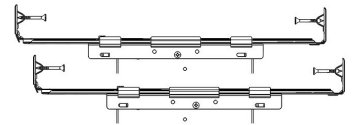

Fig. 3
2. The hanger bar system has 2 locations. Determine which mounting configuration best suits the installation (Fig 3)